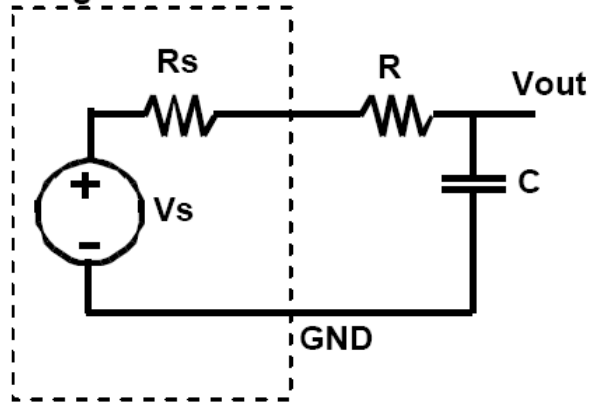

Figure 2. Simple RC circuit.
Figure 2 shows the first-order RC circuit whose step response will be studied in this lab.
The input signal to the circuit in Figure 2 is a perfect square wave with amplitude A (from 0 V to A), and period T where $T \gg RC$. You may also assume that $R \gg R_s$ (the internal resistance of an arbitrary waveform generator). Using only symbolic parameters (e.g. R, C, A; not numerical values), derive the equations for the following quantities:
1. Build the circuit in Figure 2 using $R = 10\ \text{K}\Omega$ and $C = 0.01\ \mu\text{F}$. Set the arbitrary waveform generator to provide a square wave input as follows:
1. The more points you measure on a waveform, the more accurate the measured results but this also takes more time and increases the test cost. This is an important tradeoff in measurement accuracy and test cost. Given the circuit in Figure 2, ten data points per waveform were collected in section 7.3 item 7. Should you collect more or fewer than 10 points to extract a “good” estimate of the rise or fall time of the circuit (as defined above)? “Good” estimate means the estimated value is within 10% of the correct value (from computation or simulation).